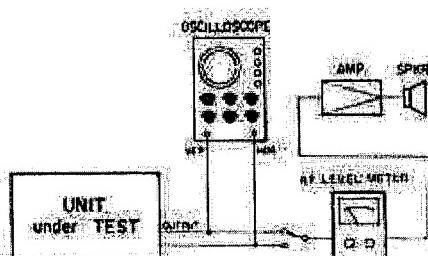

Fig. 9-5-6. Head Azimuth Test Set-Up
3. Connect an AF level meter to the OUTPUT connector as shown in Fig. 9-5-6.